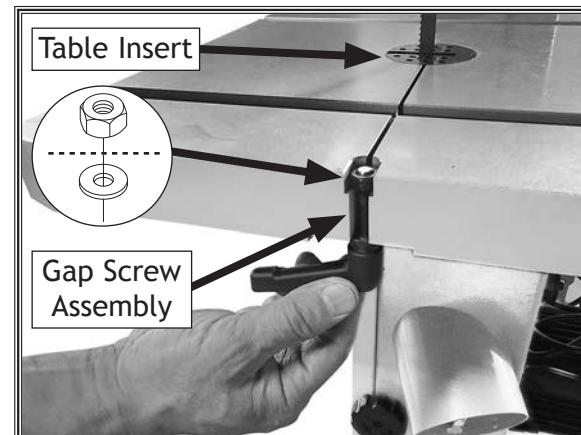

Figure 23. Table insert and gap screw installed.
6. Install table insert (see **Figure 23**).
7. Install table gap screw lock lever, secure with (1) M8-1.25 thin hex nut and (1) 8 x 20mm flat washer (see **Figure 23**), then tighten gap screw to ensure table surface is flush across gap.